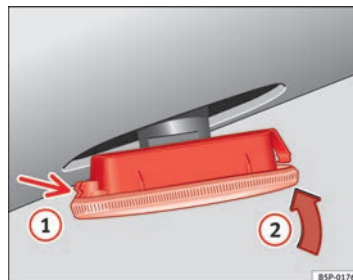

Fig. 219 Side turn signal
- First place the turn signal in the opening in the bodywork, fixing the tabs ⇒ fig. 219, arrow ①.
- Insert the bulb as shown by the arrow ② ⇒ fig. 219.